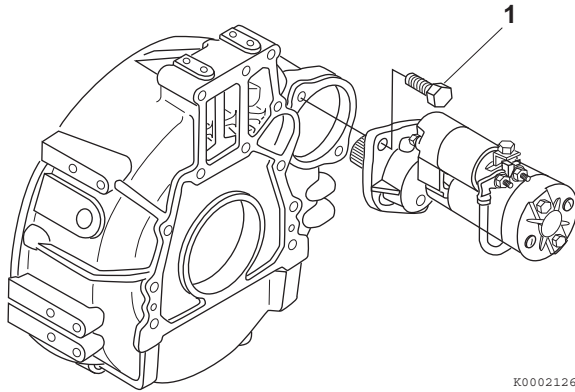

Figure 11-36
2. Reinstall the starter mounting bolts (**Figure 11-36, (1)**). Tighten the bolts to specification. See *Tightening Torques for Standard Bolts and Nuts* on page 4-39.